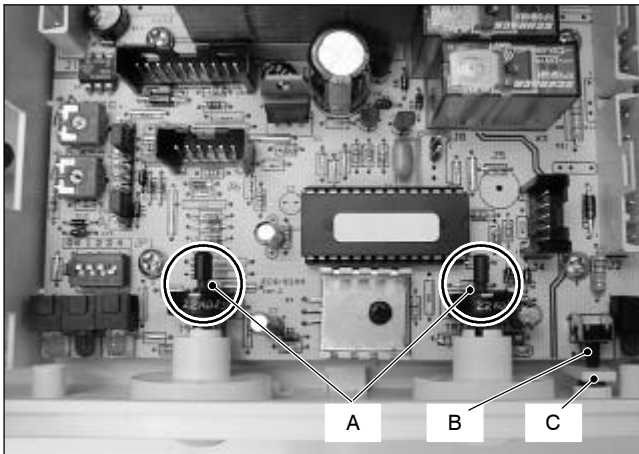

Fig. 40
- 8 Insert the spindles in the control panel knobs until the notch *A* (Fig. 40) reaches the potentiometer edge. It is not necessary to force them in the knob.
- 9 While tightening the screws that fix the Electronic control p.c.b. on the control panel, keep the p.c.b. towards the control panel fascia making sure of the contact between the boiler reset button *B* and the tab *C* (Fig. 40).